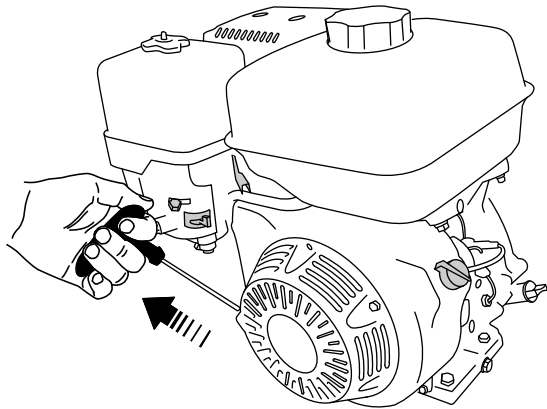

Figure 37
6. Pull the recoil-start handle lightly until you feel resistance, then pull the handle briskly. Return the starter handle gently (Figure 37).